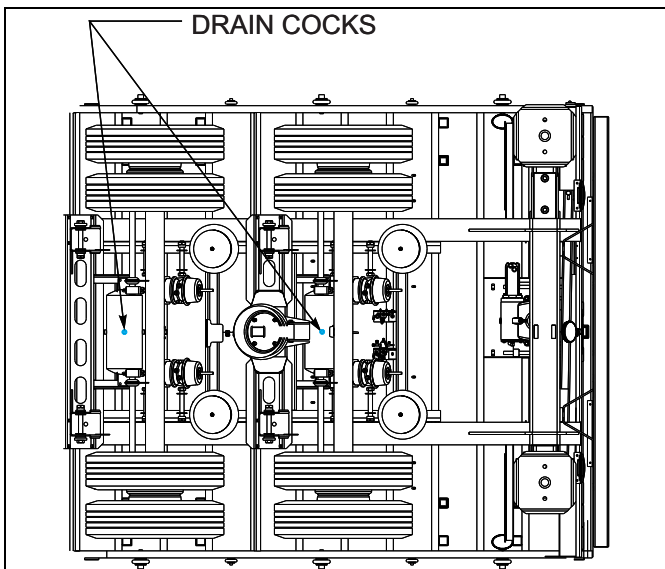

Figure 4-10: Drain Cock Locations
4. Drain air reservoir daily. A drain cock on the bottom of each air reservoir vents the tank to drain collected water and oil. If held open, air pressure in the tanks is relieved, causing the emergency or parking brakes to be applied (See Figure 4-10.)